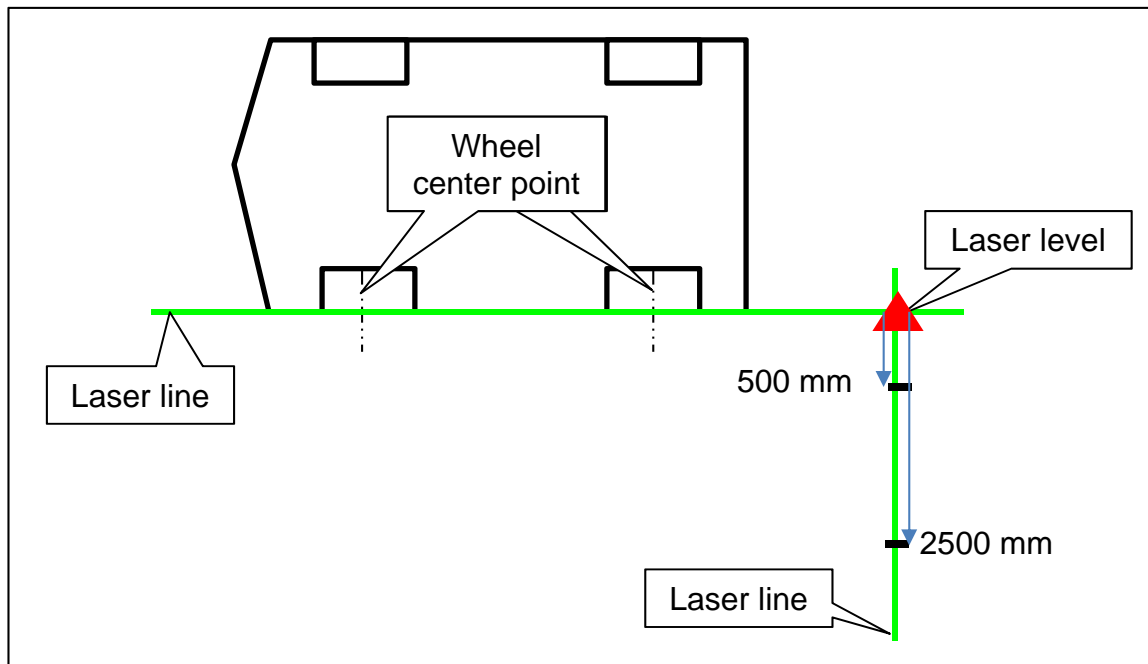
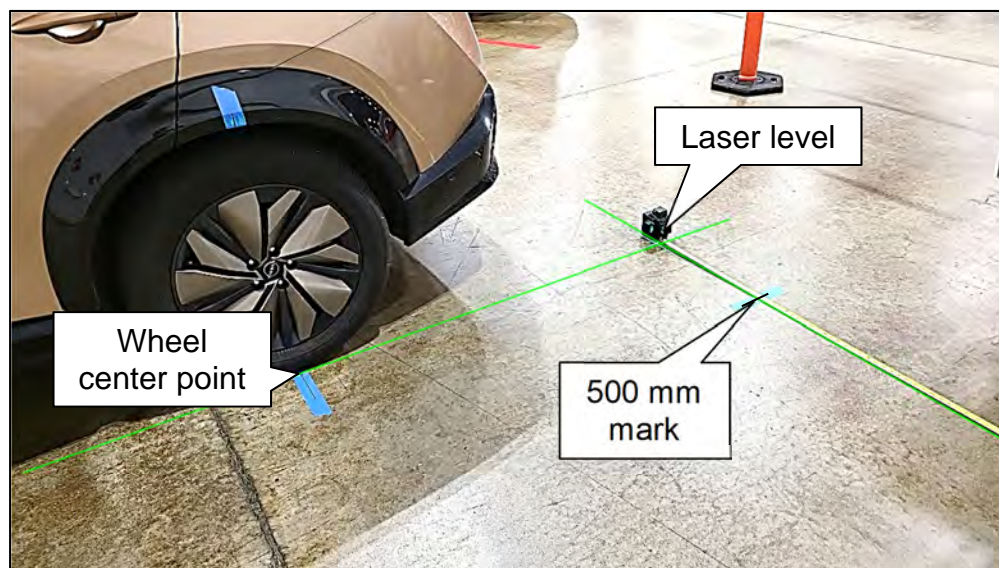

Figure 27
Figure 28
23. Activate a second vertical laser line (90° to the original laser line), and then mark a line at 500 mm and 2500 mm from the original laser line, as shown in Figure 27 and Figure 28.